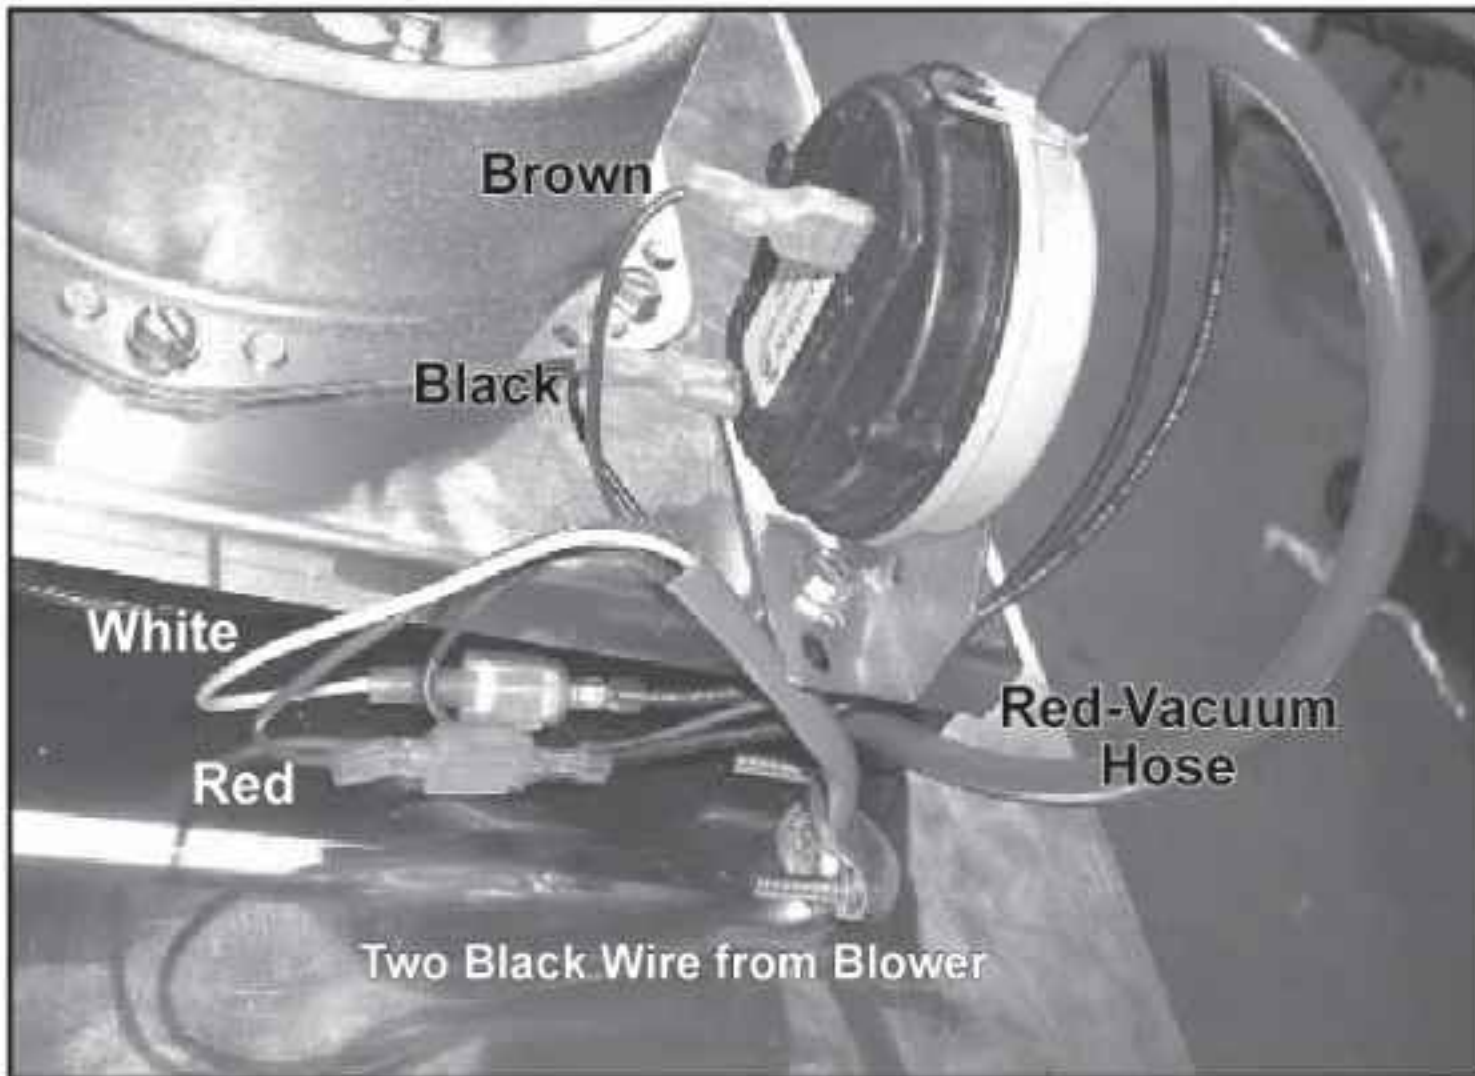

**Figure 8: Install the power vent.**
9. Insert the power vent electrical cord through the Strain Relief on the bottom right of the power vent assembly, refer to Figure 8.
11. Secure the power vent assembly in place with screws as seen in Figure 8.
14. Align the exhaust deflector with the exhaust cut out on the bottom of the power vent cover and install, refer to Figure 8, 11 and 12. Ensure that the rubber vacuum hose does not kink when installed.